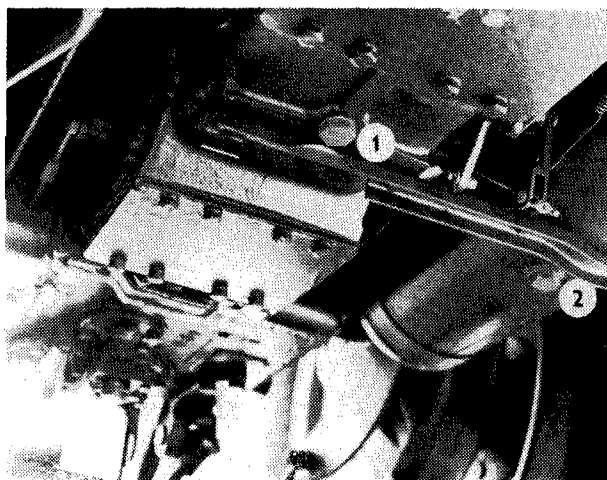

Fig. 11
- 14. Gearbox and main transmission housing oil drain plug (Fig. 11/1).
- 23. Air receiver condensate drain plug (Fig. 11/2).